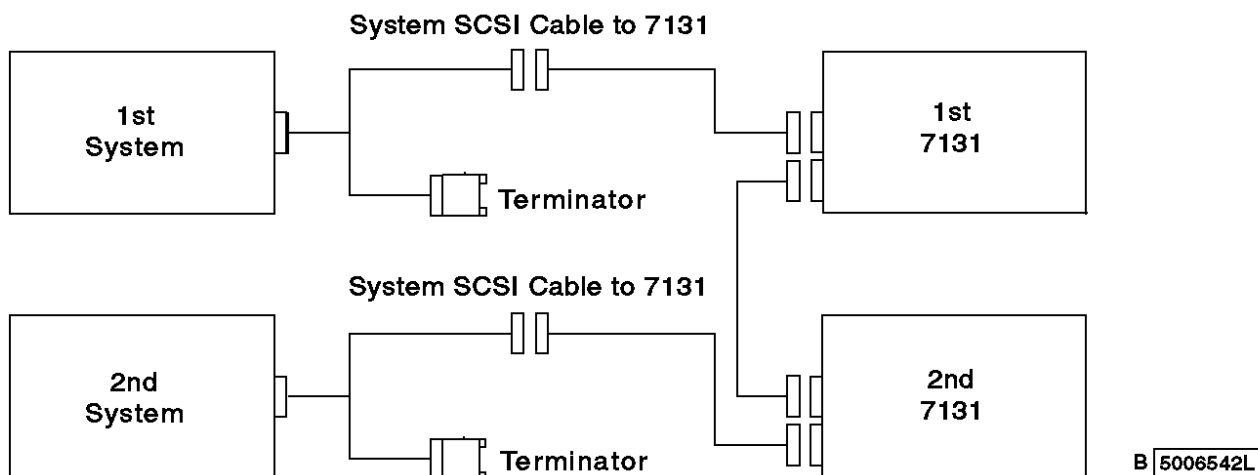

Figure 5-16. Two 7131 Storage Towers Connected to Two Systems
Connect two 7131 Storage Towers to two systems (Figure 5-16).
7. Connect the tower-to-tower SCSI cable to the first 7131 Storage Tower, in the lower SCSI connector (see Figure 5-16).
8. Connect the system SCSI cable to the first 7131 Storage Tower, in the upper SCSI connector (see Figure 5-16).
9. Connect a system SCSI cable to the second 7131 Storage Tower in the lower SCSI connector (see Figure 5-16).